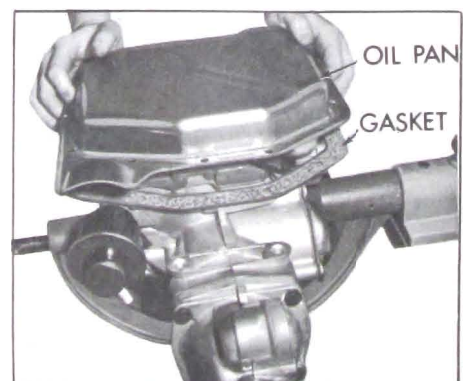

Figure 5-348
15. Install oil pan gasket and pan. See Figure 5-348.